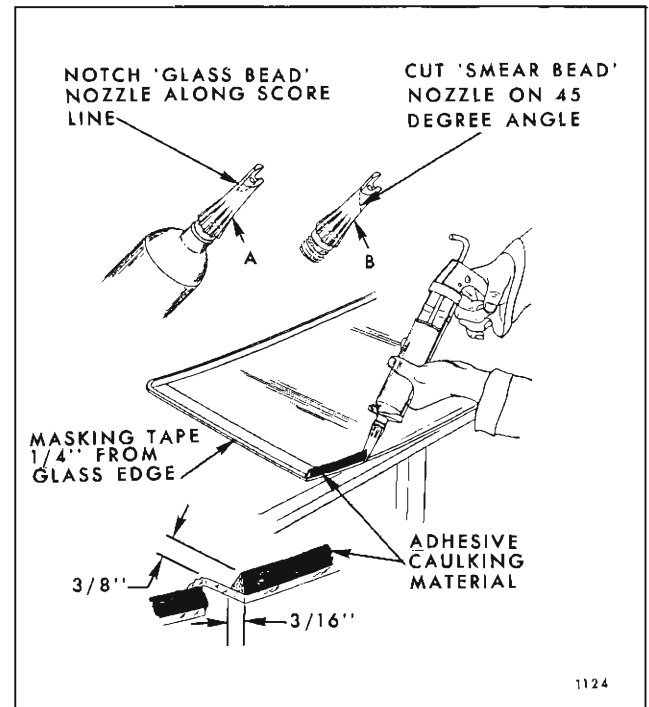

Fig. 2E41—Adhesive Caulking Material Application—
16. With caulking gun and nozzle positioned as illustrated in Figure 2E41 carefully apply a smooth continuous bead of caulking material 3/8" high by 3/16" wide at base completely around inside edge of glass.